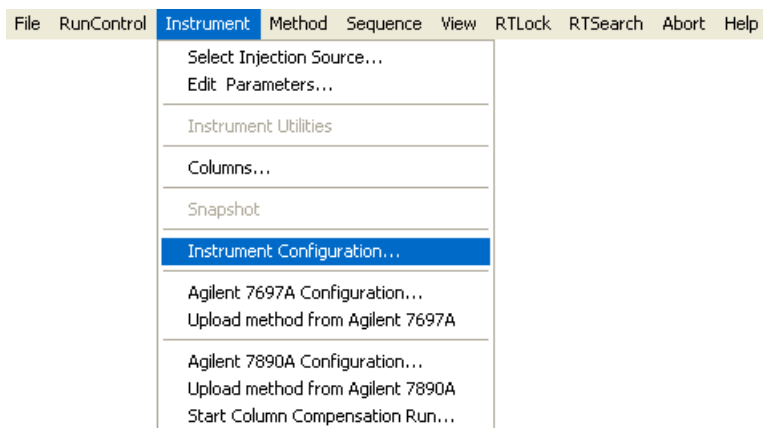

Figure 5 Accessing Instrument Configuration
- 2 Select **Instrument > Instrument Configuration...** from the data system's top menu (Figure 5).